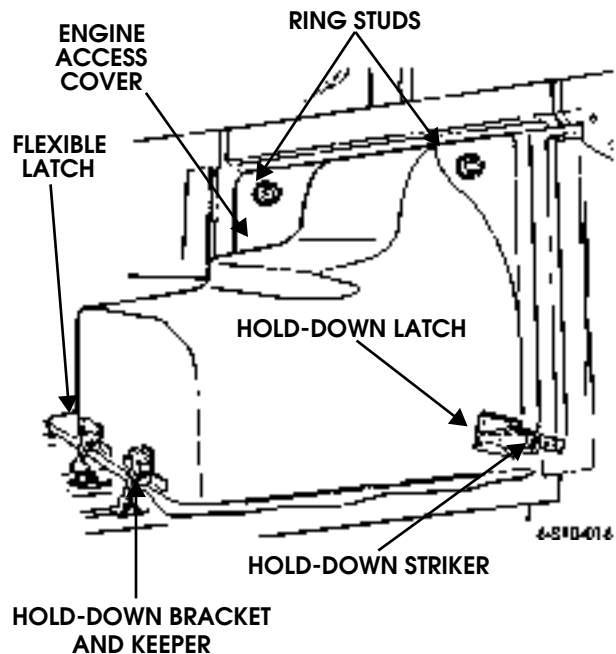

Figure 10-27: Engine Access Cover Replacement
2. Unlatch flexible latches from keepers on engine access cover hold-down brackets (Figure 10-27).